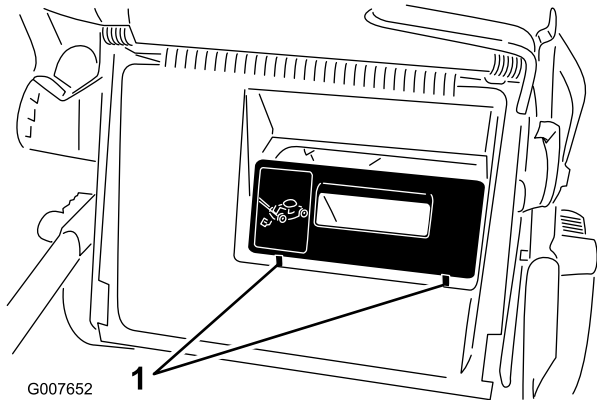
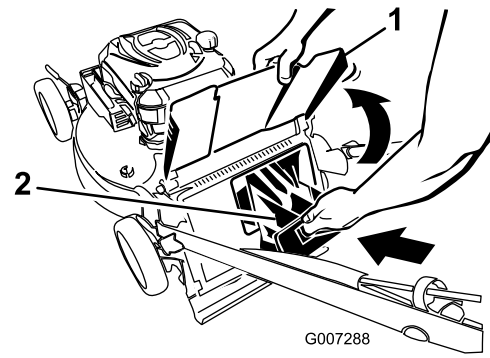

Figure 17
Figure 18
**Important:** Ensure that the rear discharge plug is securely in place. Lift up the discharge deflector and look for 2 tabs in front of the plug (Figure 17). If you do not see them, firmly push the plug in until it snaps into place (Figure 18).